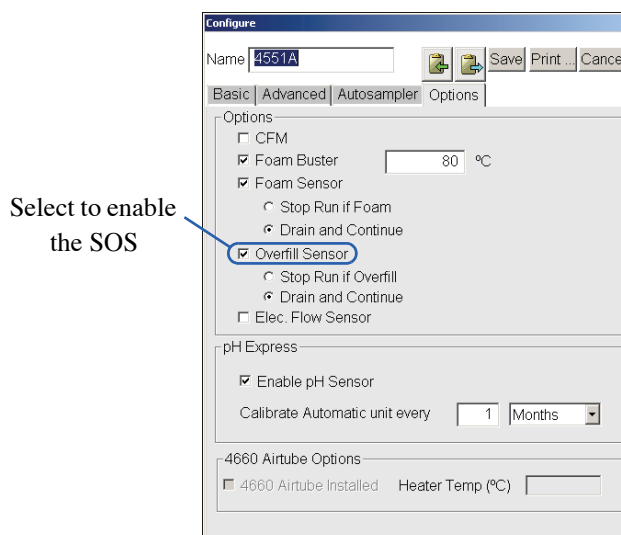

Figure 10.10. Enabling the SOS
- From the Configure screen, press the **Options** tab to access the Options Configure screen (Figure 10.10).